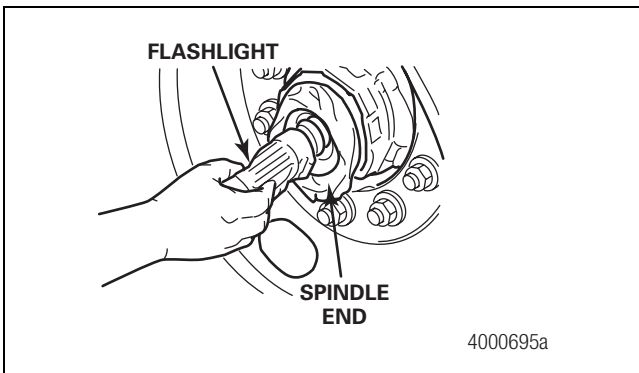

Figure 10
9. Check the inside of the axle tube with a flashlight by shining the light into one end of the spindle and looking through the opposite end. Confirm that all debris, including loose rust, scale, liquid and machining residue has been removed. Figure 10.